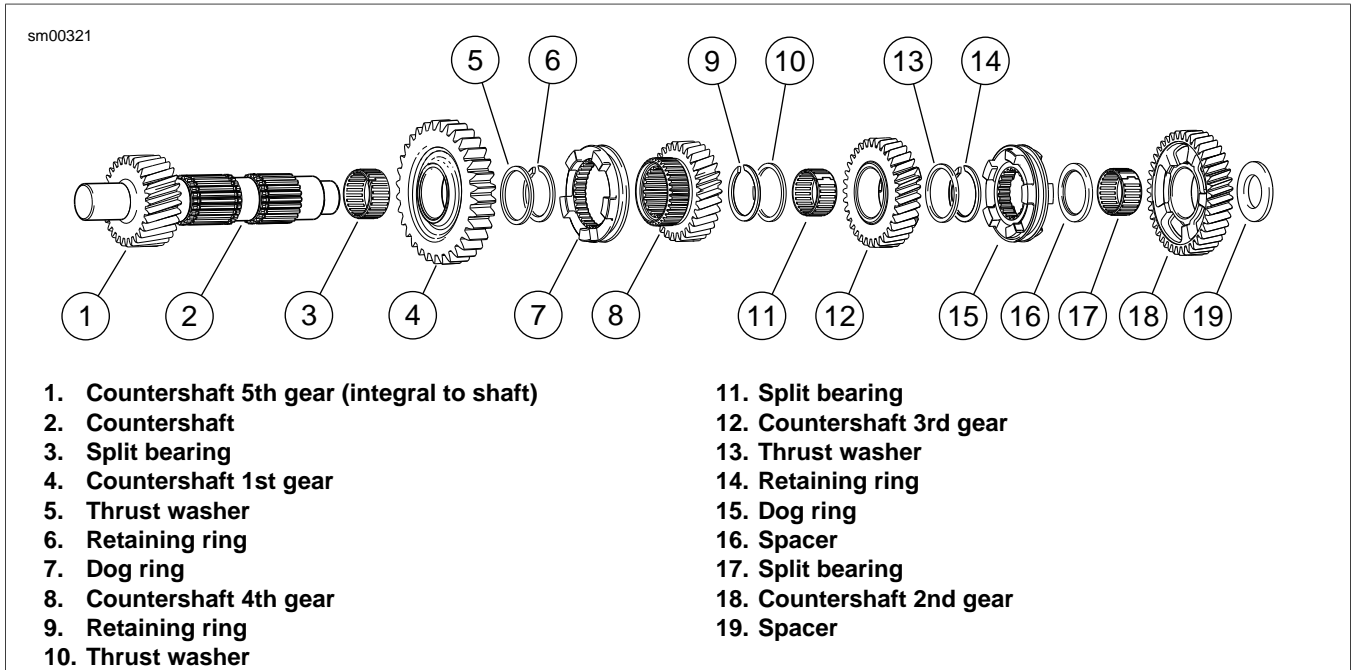

Figure 5-63. Transmission Countershaft
1. See Figure 5-63. Remove spacer (19) and 2nd gear (18) from the end of the of the countershaft (2). Remove and discard split bearing (17).
2. Remove spacer (16).